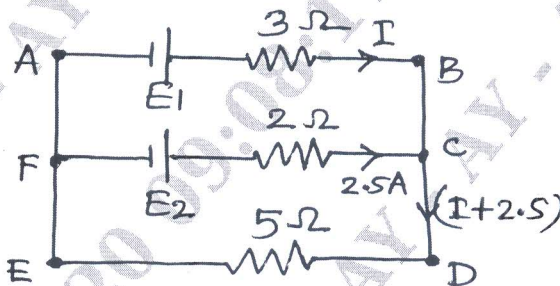

Fig.Q2(b)
- b. In the circuit shown in Fig.Q2(b). Find E_1 , E_2 and I , when the power dissipated in the 5Ω resistor is 125W.